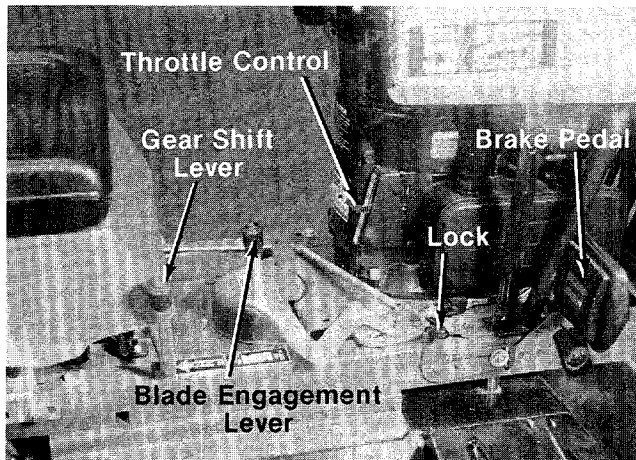

FIGURE 11.
- A. Throttle Control actuates the butterfly in the carburetor and may be set at "CHOKE", "FAST" or "SLOW." See figure 11.
- D. The Blade Engagement Lever engages and disengages the blade. Pull the Blade Engagement Lever back to stop the blade. Move the Blade Engagement Lever forward to engage the blade. See figure 11.
E. The Gear Shift Lever is used to select either forward or reverse. See figure 11.
G. The Brake Pedal is operated with your right foot and is used to stop the forward or reverse motion of the rider. To engage the brake, depress the Brake Pedal with your right foot. To set the parking brake, depress the brake and lift the lock. To release, depress the brake pedal. See figure 11.
3. Depress the Brake Pedal and lock it down with lock. See figure 11.
5. Place the Gear Shift Lever in "NEUTRAL" (N) position. See figure 11.
6. Place the Blade Engagement Lever in the "OFF" disengaged position. See figure 11.
7. Place the Throttle Control Lever in the "CHOKE" position. See figure 11.